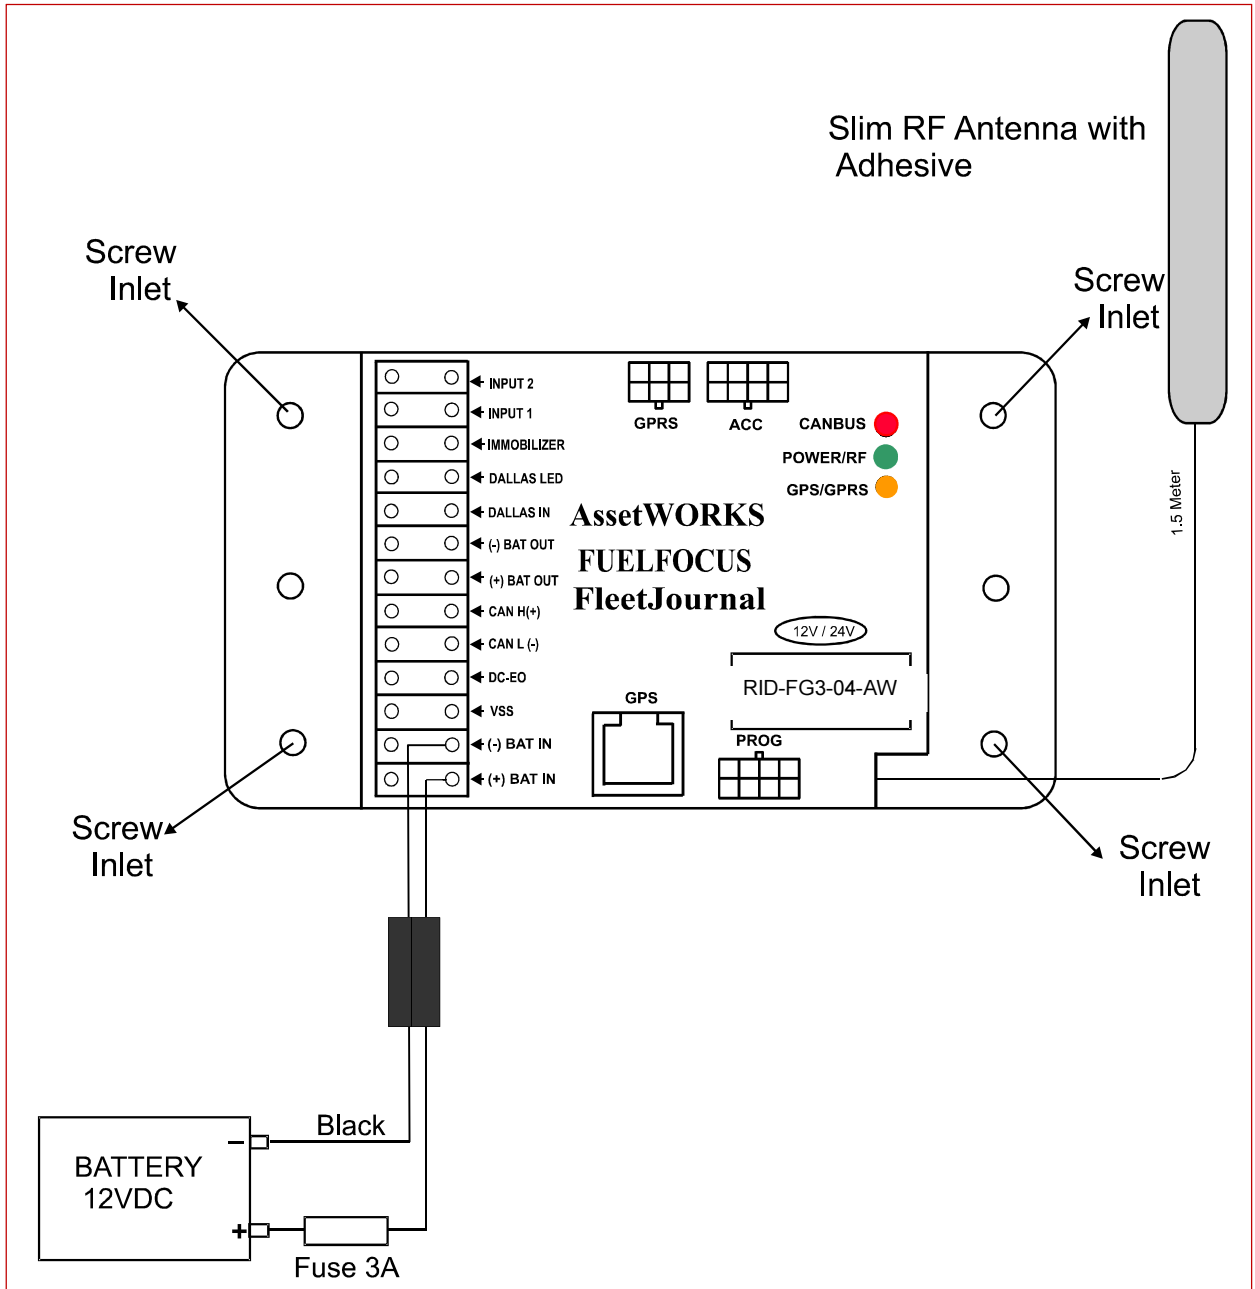

Figure 2: FJ3 Wiring Diagram
2. Drill at least two 1/8" holes for the FJ3 mounting. Use the FJ3 to mark the holes (see Figure 2: FJ3 Wiring Diagram)
4. Figure 2 shows the FJ3 mounted on the vehicle chassis, or any other metal portion of the vehicle whenever possible.